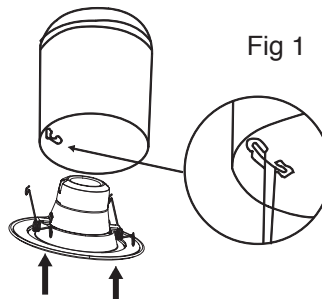
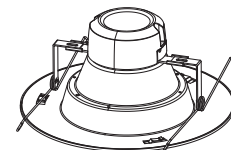
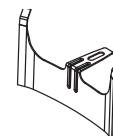
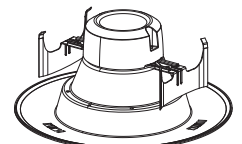

Fig 3
Fig 4
Fig 5
Fig 6
4. As shown in Fig 3, position the torsion springs into the metal mounting clips on the inside of the housing. Adjust for a 5" can size by loosening screws on torsion bracket and slide brackets inward. Tighten screws (Fig 4).
NOTE: For recess cans that do not use torsion springs, replace the torsion springs with spring clips shown in Fig 5.
See Fig 4. Remove torsion spring brackets by removing (2) screws and replace with spring clips (Fig 5), then replace (2) screws and tighten securely. Fig 6 shows spring clips installed.